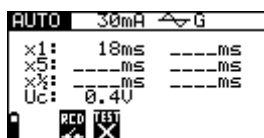

Figure 5.29: Step 1 RCD autotest results
Step 3 Follow the connection diagram shown in the figure 5.29 to perform fault loop impedance measurement. Use the **Help** function if necessary.